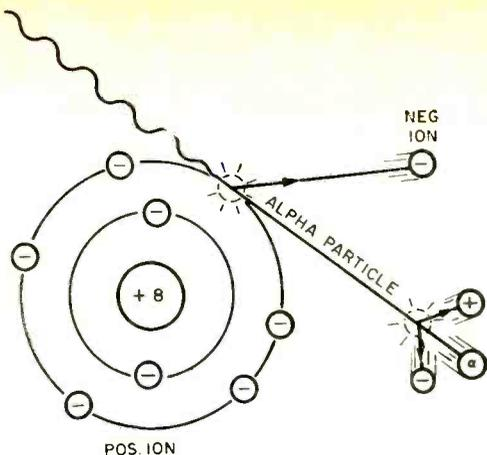

Fig. 1. Ion-pair production is the result of alpha particle striking atom.
**Ionization.** When it passes through matter or gases like air, nuclear radiation produces ion pairs. The manner in which ion pairs are formed by an alpha particle colliding with an oxygen atom is shown in Fig. 1. The electron dislodged by the alpha particle becomes a negative ion, while the remainder of the atom, now minus one electron, becomes a positive ion. Note that the collision forms two oppositely charged ions; hence the term "ion pair."